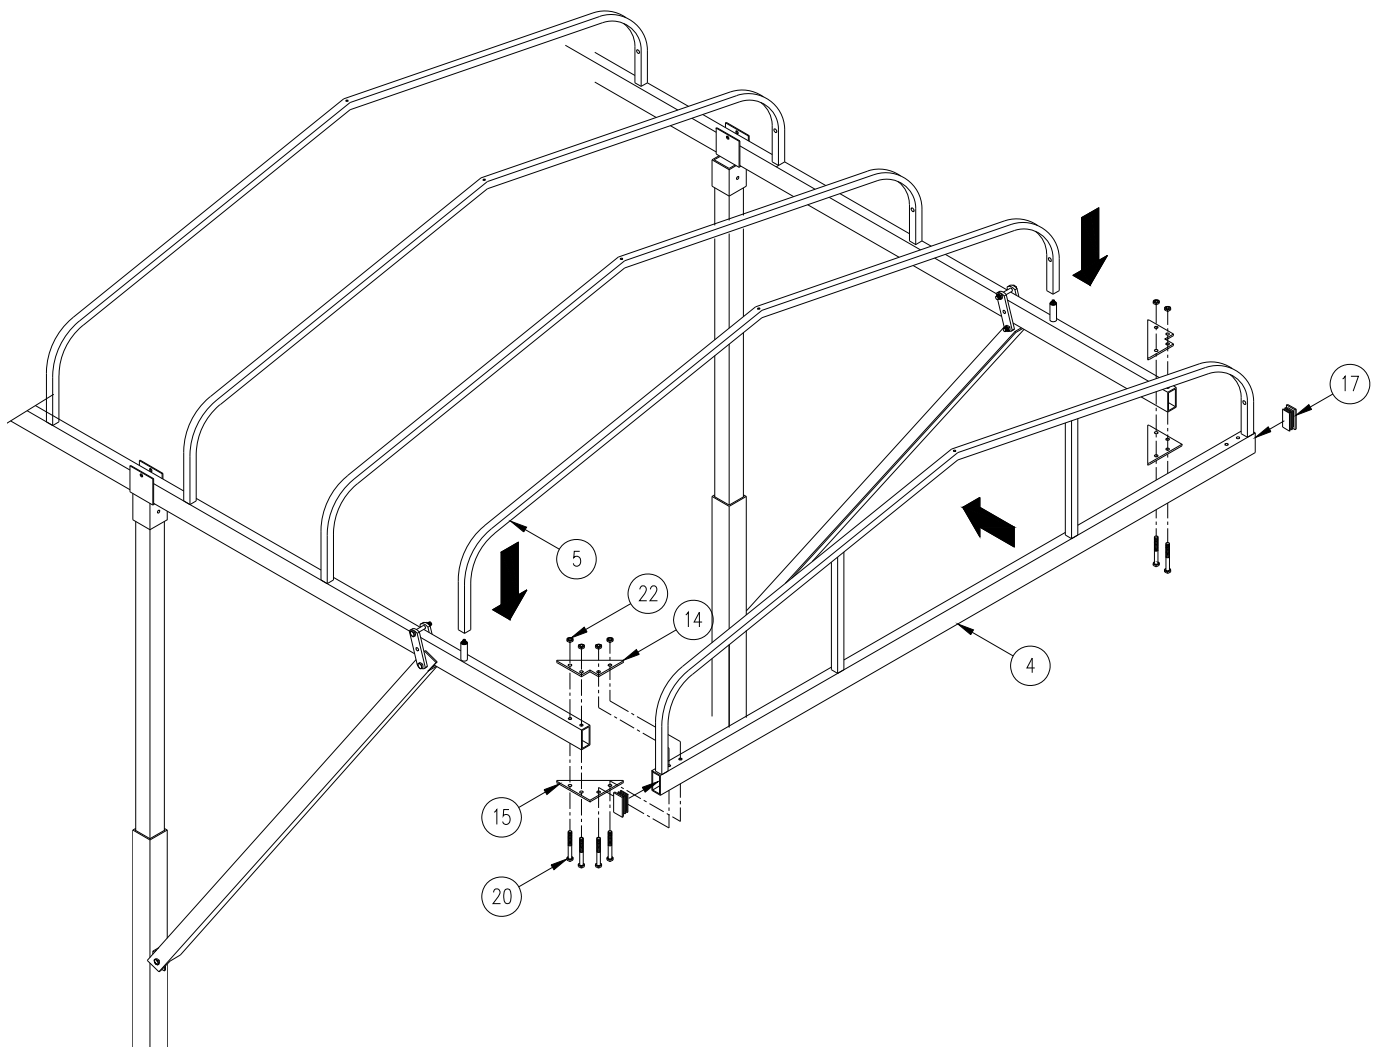

Figure 2-7.
6. Refer to **Figure 2-7**. Attach each canopy end cap to the side stringers using (1) top gusset, bottom gusset, and hardware shown for each corner connection. Before tightening hardware, square the canopy frame by placing a carpenter or